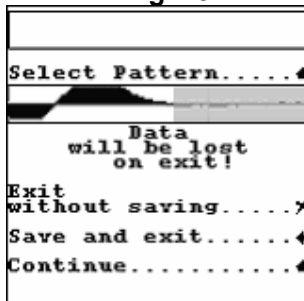

Fig. 74
16. After pressing the Shift button, the function of the Up, Down and Right, Left keys is changing. Now with the Up, Down keys the image may be shifted vertically and with the Right, Left keys - horizontally. Pressings the Shift key once again returns the keys their previous functions. To return to scanning mode press the Break key. Now the scanning of the tested object may be continued. To end the scanning, press the Break key. The request for test results saving will be displayed (Fig. 74). To exit without saving test results press the Break key, to save them into device archive press the Enter key.